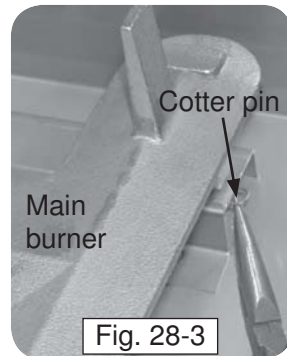

Fig. 28-3
3. Remove the cotter pin from the left or right rear burner anchoring peg by pulling it straight out of the cotter pin hole using fingers or needle-nose pliers (Fig. 28-3).